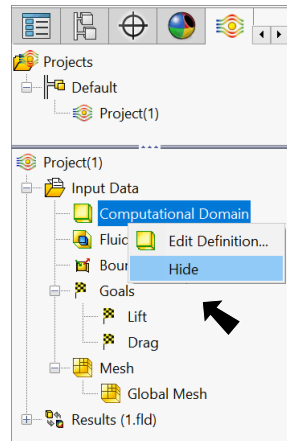

Fig. 17
- Step 1. Right click **Computational Domain** in Flow Simulation tree and click **Hide**, **Fig. 17**.
- Step 2. Click **Surface Plot** in the **Insert** flyout on the Flow Simulation toolbar. **Fig. 17**